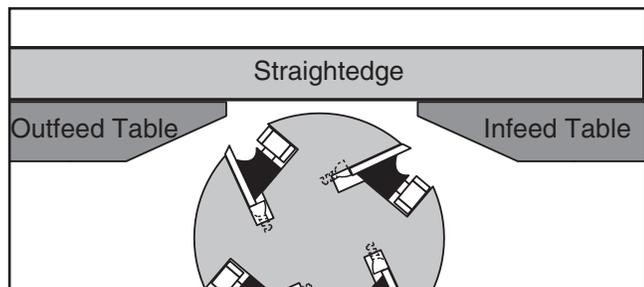

Figure 70. Infeed and outfeed tables set evenly (knife-style cutterhead shown).
3. Rotate cutterhead so knives/inserts will not interfere, then place straightedge on infeed and outfeed tables and adjust infeed table even with outfeed table, as shown in **Figure 70**.